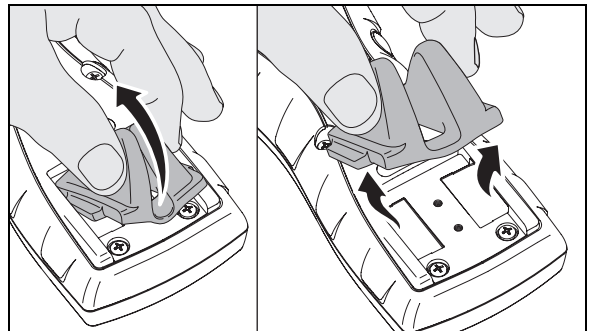

Figure 4. How to Remove and Install the Belt Clip Protector
- 2 Remove and install the protector as shown in Figure 4.